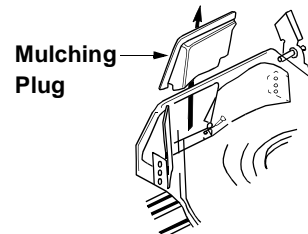

Figure 8
- Lift the chute door on the mower. Remove the mulching plug or the discharge chute. See Figure 8.